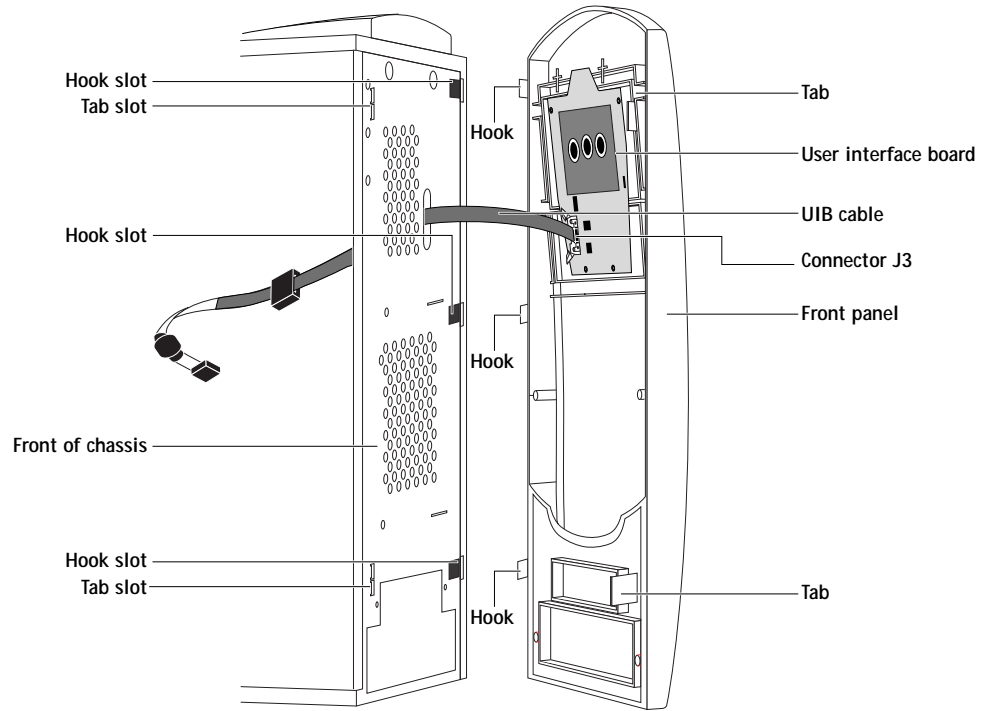

FIGURE 4-4 Removing the front panel
3. Release the tabs that secure the front panel to the chassis by gently pressing them inward and pulling the front panel away from the chassis (see Figure 4-4 on page 4-7).
3. Angle the front panel so that the three hooks line up with the three hook slots (see Figure 4-4).